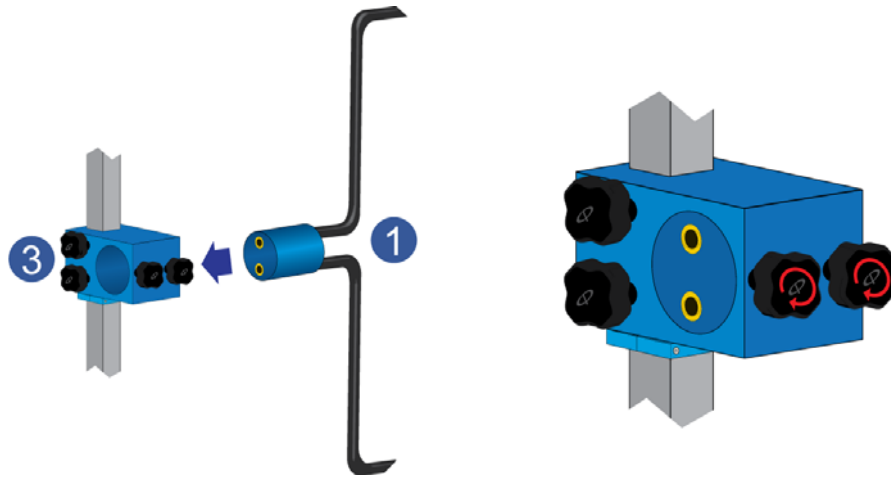

Figure 9 - Assembly Instructions - Coil Mounting Structure – Step #5
- Step #5** Insert the blue cylinder attached to the rear of the APF-5060-11 coil¹ into the cylindrical hole in the antenna positioner³ as shown in Figure 9. Place the coil in the desired orientation and tighten the finger-knob bolts (clockwise) to secure.